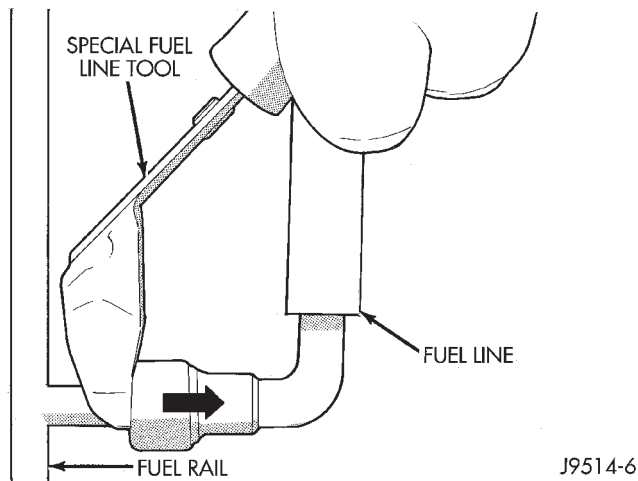

Fig. 20 Fuel Line Disconnection—Typical
- (5) Slide the latch clip toward the fuel rail while lifting with the screwdriver.
- (6) Insert special fuel line removal tool (Snap-On number FIH 9055- 1 or equivalent) into the fuel line (Fig. 20). Use this tool to release the locking fingers in the end of the line.
- (7) With the special tool still inserted, pull the fuel line from the fuel rail.
- (8) After disconnection, the locking fingers will remain within the quick-connect fitting at the end of the fuel line.
- (9) Inspect fuel line fitting, locking fingers and fuel rail fitting for damage. Replace as necessary.
- (10) Prior to connecting the fuel line to the fuel rail, check condition of both fittings. Clean the parts with a lint-free cloth. Lubricate them with clean engine oil.
- (11) Insert the fuel line onto the fuel rail until a click is felt.
- (12) Verify a locked condition by firmly pulling on fuel line and fitting (15-30 lbs.).
(13) Install latch clip (snaps into position). **If the latch clip will not fit, this indicates the fuel line is not properly installed to the fuel rail. Recheck the fuel line connection.**
- (14) Connect negative battery cable to battery.
- (15) Start engine and check for leaks.